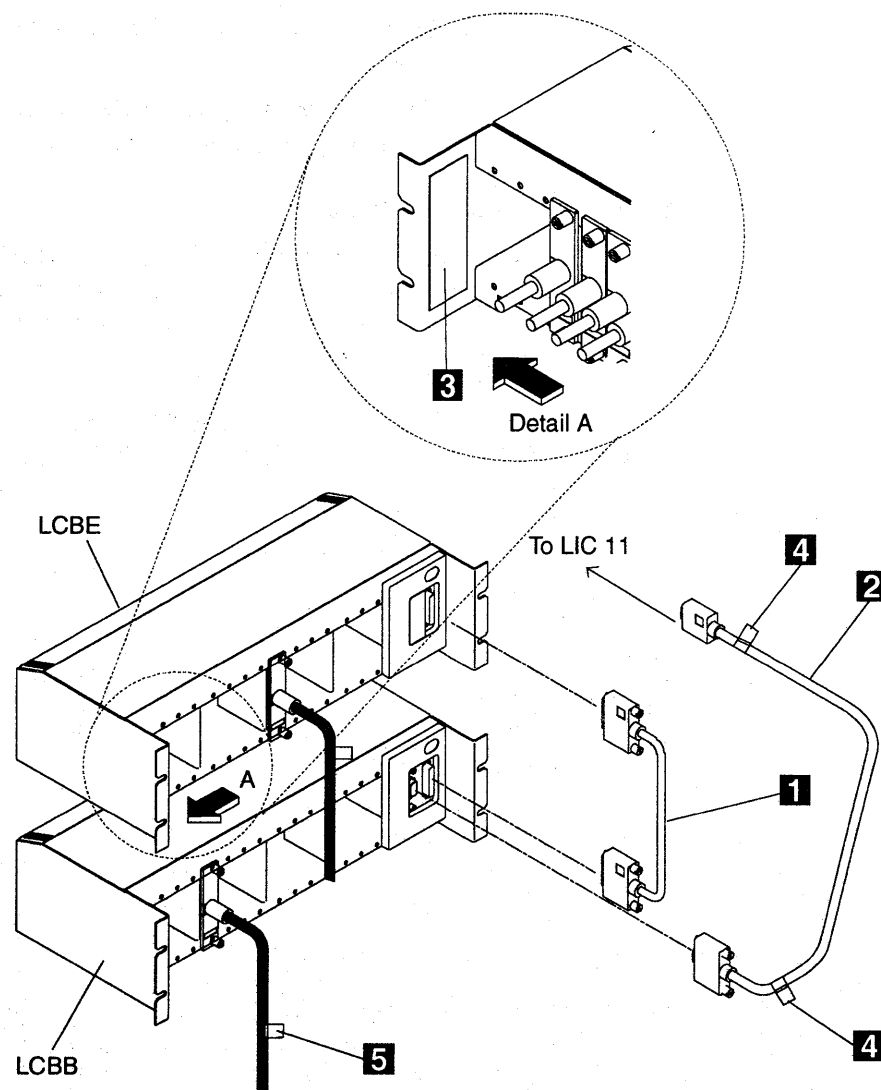

Figure 3-10. LCB Base and LCB Expansion Connections Installed with ARC Assembly A.
b. Stick the LCB label on the inner left side of the LCB (see **3** in Detail A of Figure 3-10).
- b. Stick two identical labels at both ends of the cable (see the two **4**s in Figure 3-10 on page 3-15).
Step 7 Connect the LIC 11 cable to the LCB base and tighten the cable plug retaining screws. Refer to “Unplugging or Plugging in LIC Cables” on page 3-7 for details, and also **2** in Figure 3-10 on page 3-15.
- b. Stick the ARC labels at either end of the ARC cable (see **5** in Figure 3-10 on page 3-15). Be sure to remove any old labels first.